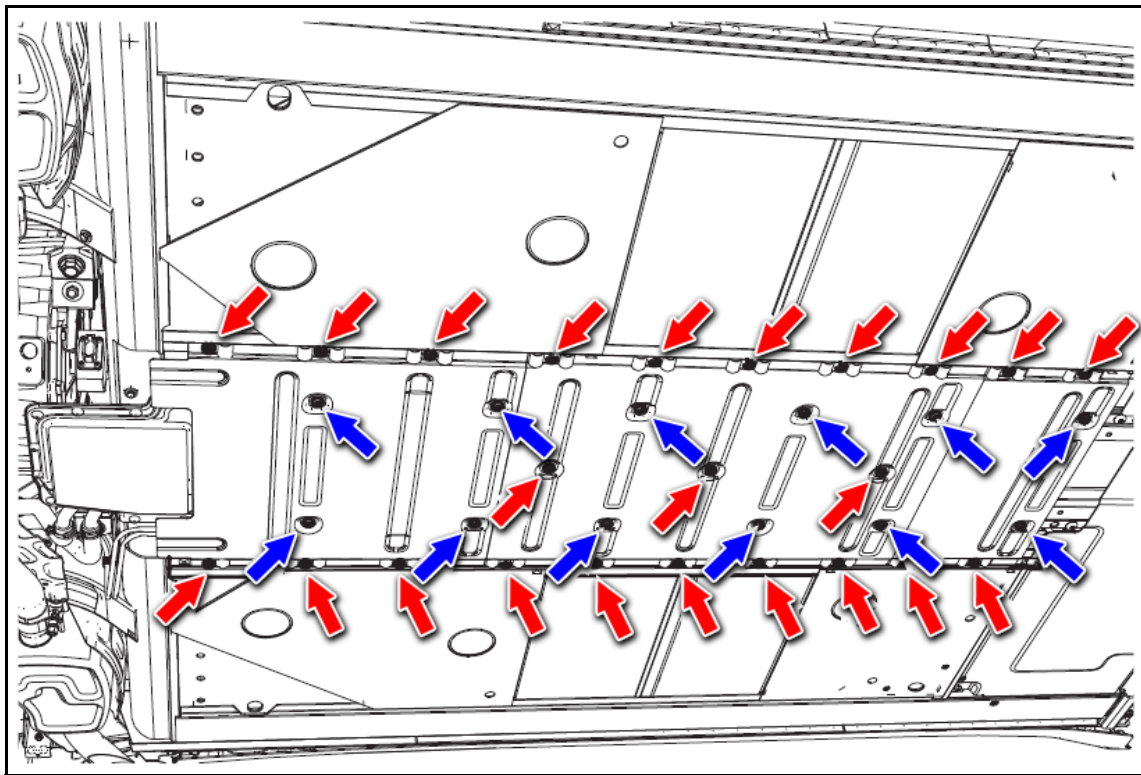

Figure 3C
3.3. Remove tunnel closing panel from under the vehicle and note position and length of bolts. The shorter bolts are on the outside perimeter and very center of panel (see red arrows in Figure 3C) and longer bolts are in between (see blue arrows in Figure 3C). Note the position of the longer bolts on the body using a marker as this will assist in reinstallation of battery and knowing which holes to leave empty during battery reinstallation.